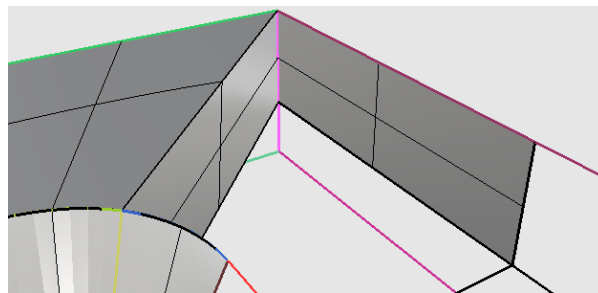

Figure 73: Completing the Loft operation
4. Click on the vertical line opposite the highlighted edge to specify the second curve of the Loft. Hit **<ENTER>** to bring up the **Loft settings** dialog box. Click **OK** to complete the Loft (Figure 73).